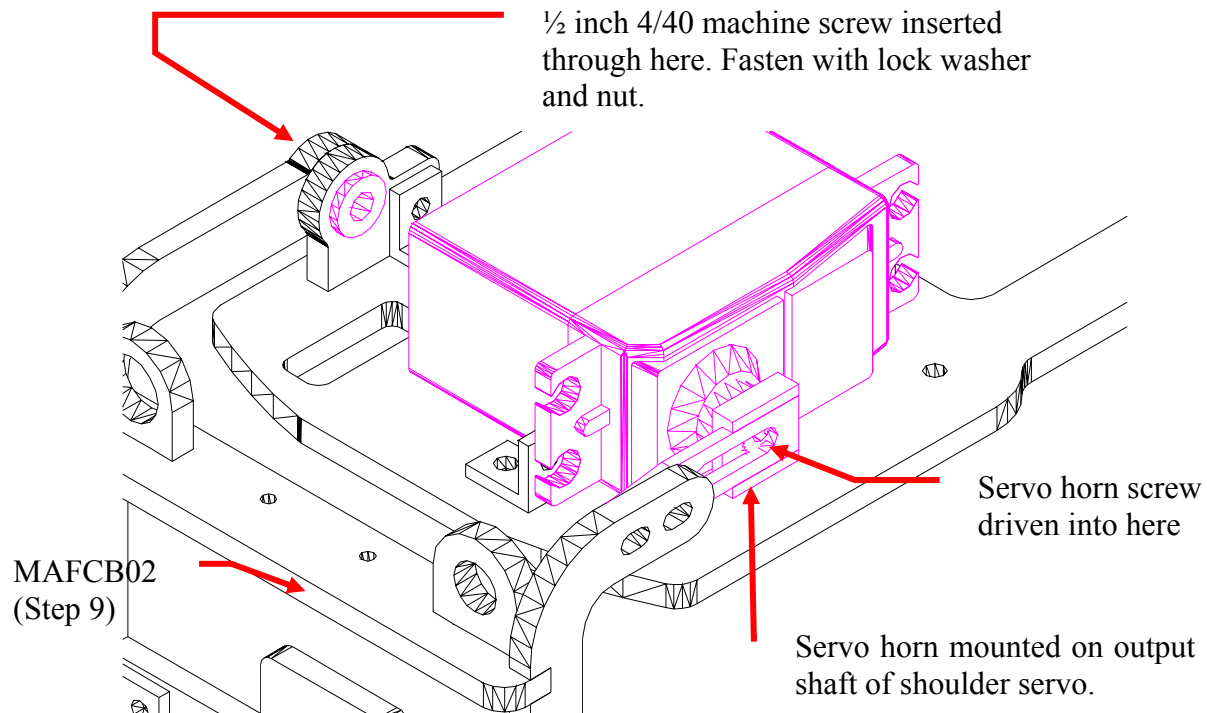

Figure 13. Attach the completed forearm assembly to the manipulator base assembly (screws are not shown)
3. Orient the forearm as shown in **Figure 13**. Mount the servo horn, on the left forearm link, onto the shoulder servo output shaft, all the while aligning the upper right forearm link with the base link mount.
4. Use ½ inch 4-40 screw with lock washer and nut to mate the right forearm shoulder joint with the MAFRM01 on the manipulator base plate (**Figure 13**). The forearm link must be on the outside (to the right) of the link mount MAFRM01. Pass the screw from right-to-left through the link and link-mount so that the lock washer and nut are on the inside of the joint. At the same time place the horn slider into the horn rack of the shoulder servo (you mounted the horn rack in the previous step). Loosely fasten the shoulder joint screw and the servo horn screw SHS-300.